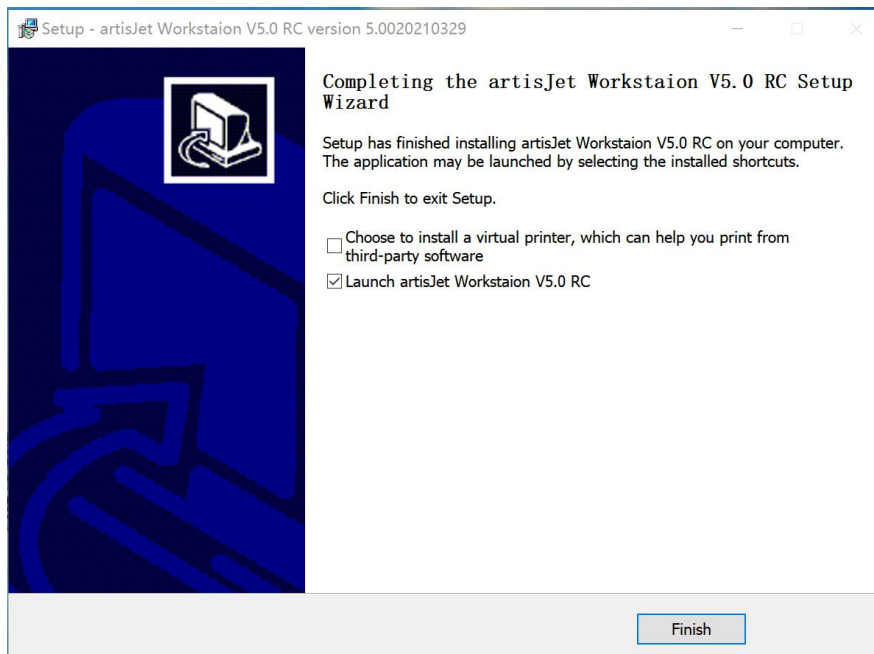

Fig. 5 – Complete the installation
Step 4 – Click “Finish” to complete the installation process (Fig. 5).